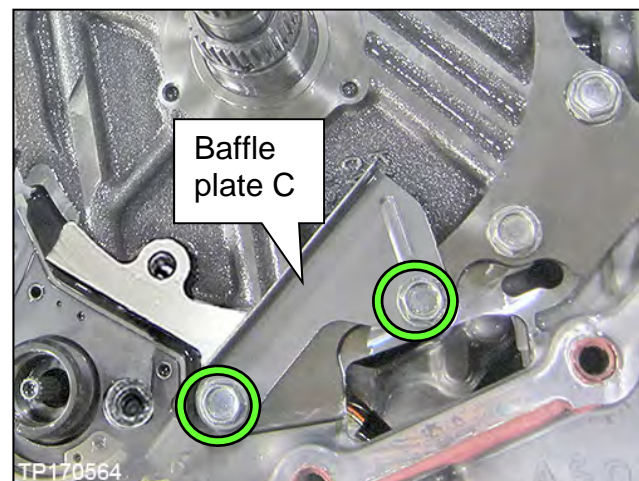

Figure 49
27. Remove the two (2) bolts from baffle plate C, and then remove baffle plate C (Figure 49).